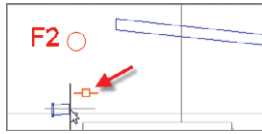

FIGURE 15.10 A glyph indicating the proper connection of a pipe to a fitting
5. In the upper-right viewport, place your cursor near the right end of the short pipe segment located just below the red circle. When the glyph appears, as shown in Figure 15.10, click the pipe. Click **Counterclockwise** on the command line.
9. Click Add Bend; then click the end of the newly created pipe, making sure the proper glyph is showing, as shown in Figure 15.10. Click Clockwise on the command line to invoke the Clockwise option. Another 45° bend is created.